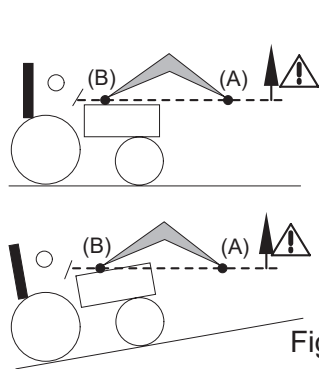

Fig. 2
- During a lifting operation and when moving, keep your eyes on the load from when the implement's pivot point (A) passes the horizontal of the loader's pivot point (B) (see Fig. 2). If necessary, correct the implement's position so that the load is never directed towards the driver (see Fig. 3).
! DANGER: If the load is not properly secured, there is a risk of the load falling when the implement pivot point (A) exceeds the horizontal of the loader pivot point (B) (see Fig. 2).
DANGER: It is prohibited to crowd the loader when the implement pivot point (A) exceeds the horizontal of the loader pivot point (B) (see Fig. 2).